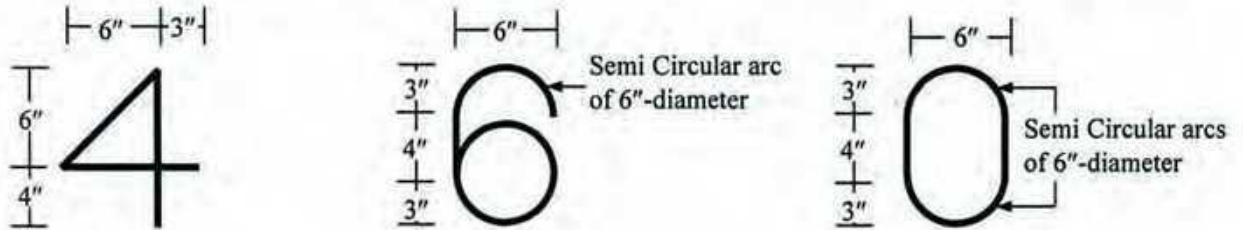

Fig. 1
1. Calculate the equivalent polar moments of inertia (J_{eq}) for the three cross-sections shown in Fig. 1 by centerline dimensions [Given: Wall thickness = 0.10" throughout].